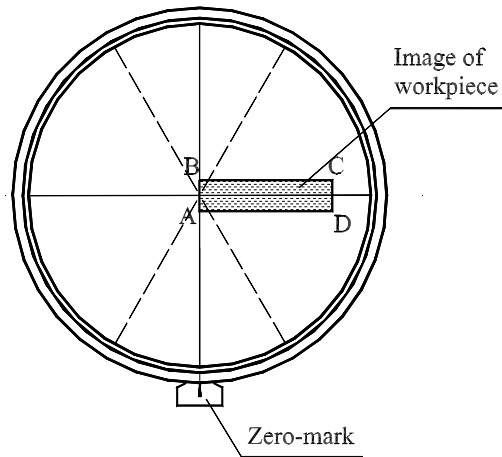

Fig.10 One-dimensional measuring
7.2.1.3 Adjust the work piece parallel with the measuring axis. (See Fig.10) BC is parallel with X axis.